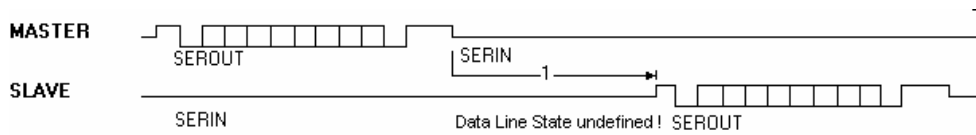

Figure 72 Timing of the one-line serial connection
Here are some hints for a reliable data exchange. Figure 72 shows the timing of the one-line serial connection.
The slave sends its returned value only after `high out` and `low out` are finished. This time is shown in Figure 72 marked with (1) when the I/O pins of both BS2s are switched to input and the data line has an undefined state – it floats. Each disturbance on this data line could be interpreted as start bit for a new data transmission and the synchronization of the both BS2 is lost - the system hangs.